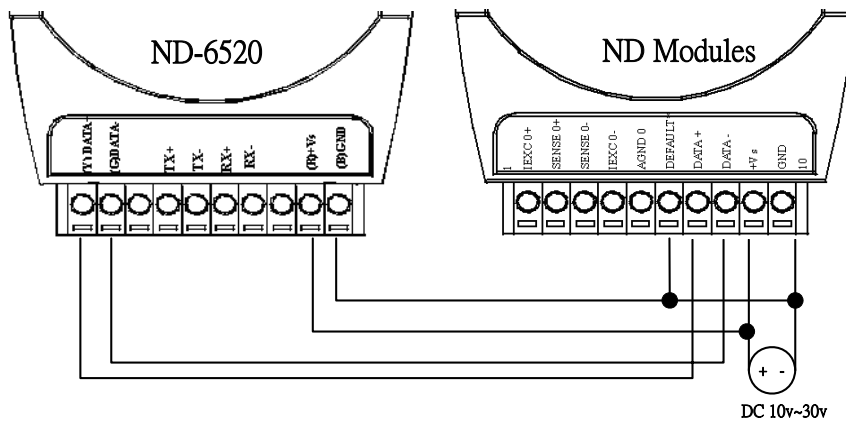

Figure A-1. ND-60xx Default Setting External Connection
1. **When setting the baud rate and checksum, please connect the external Default pin to the negative pin of the DC power supply (i.e. GND). Please refer to the circuit path connection in Figure A-1. After setting the device, turn off the power supply and remove the connection between Default and GND. It is now ready for use.**